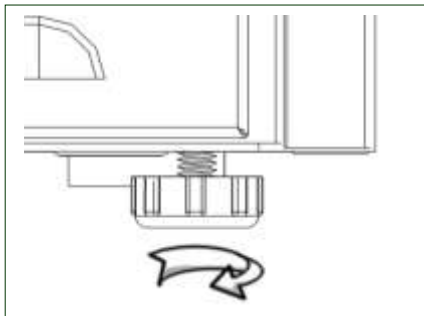

Fig. 7
- Perform horizontal alignment of the refrigerated cabinet on the sides and ends using a water level. If necessary, correct height alignment per hand at the leveller feet (see fig. 7):